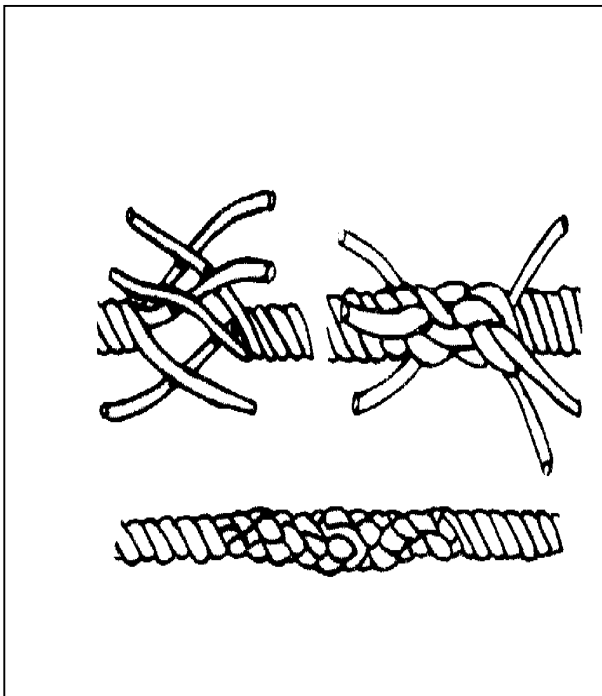

Figure 11-7. Short splice
i. Short Splice. A short splice (Figure 11-7) is the strongest way to join two lines. Unlike the long splice, it increases the diameter of the line so that it may not be able to pass through rings, grommets, and other tent hardware. A short splice is made by untwisting a short section at the end of two lines and interweaving the strands so that they form one line.